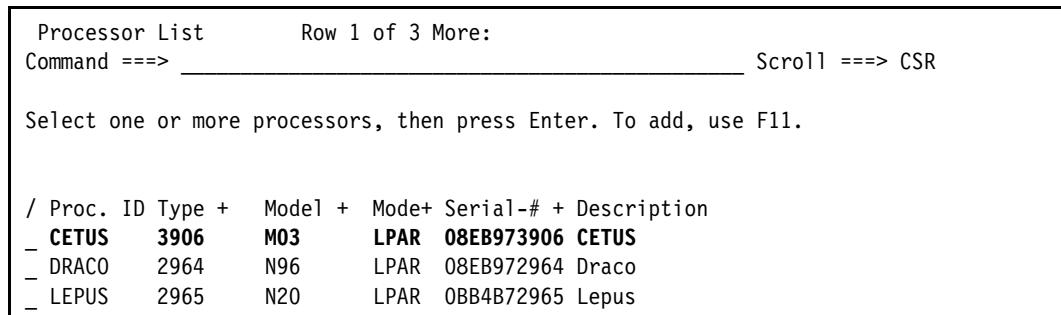

Figure 3-7 Processor List: Changed processor
- The repeated 2964 processor is successfully changed to a 3906-M03 as shown in Figure 3-7.